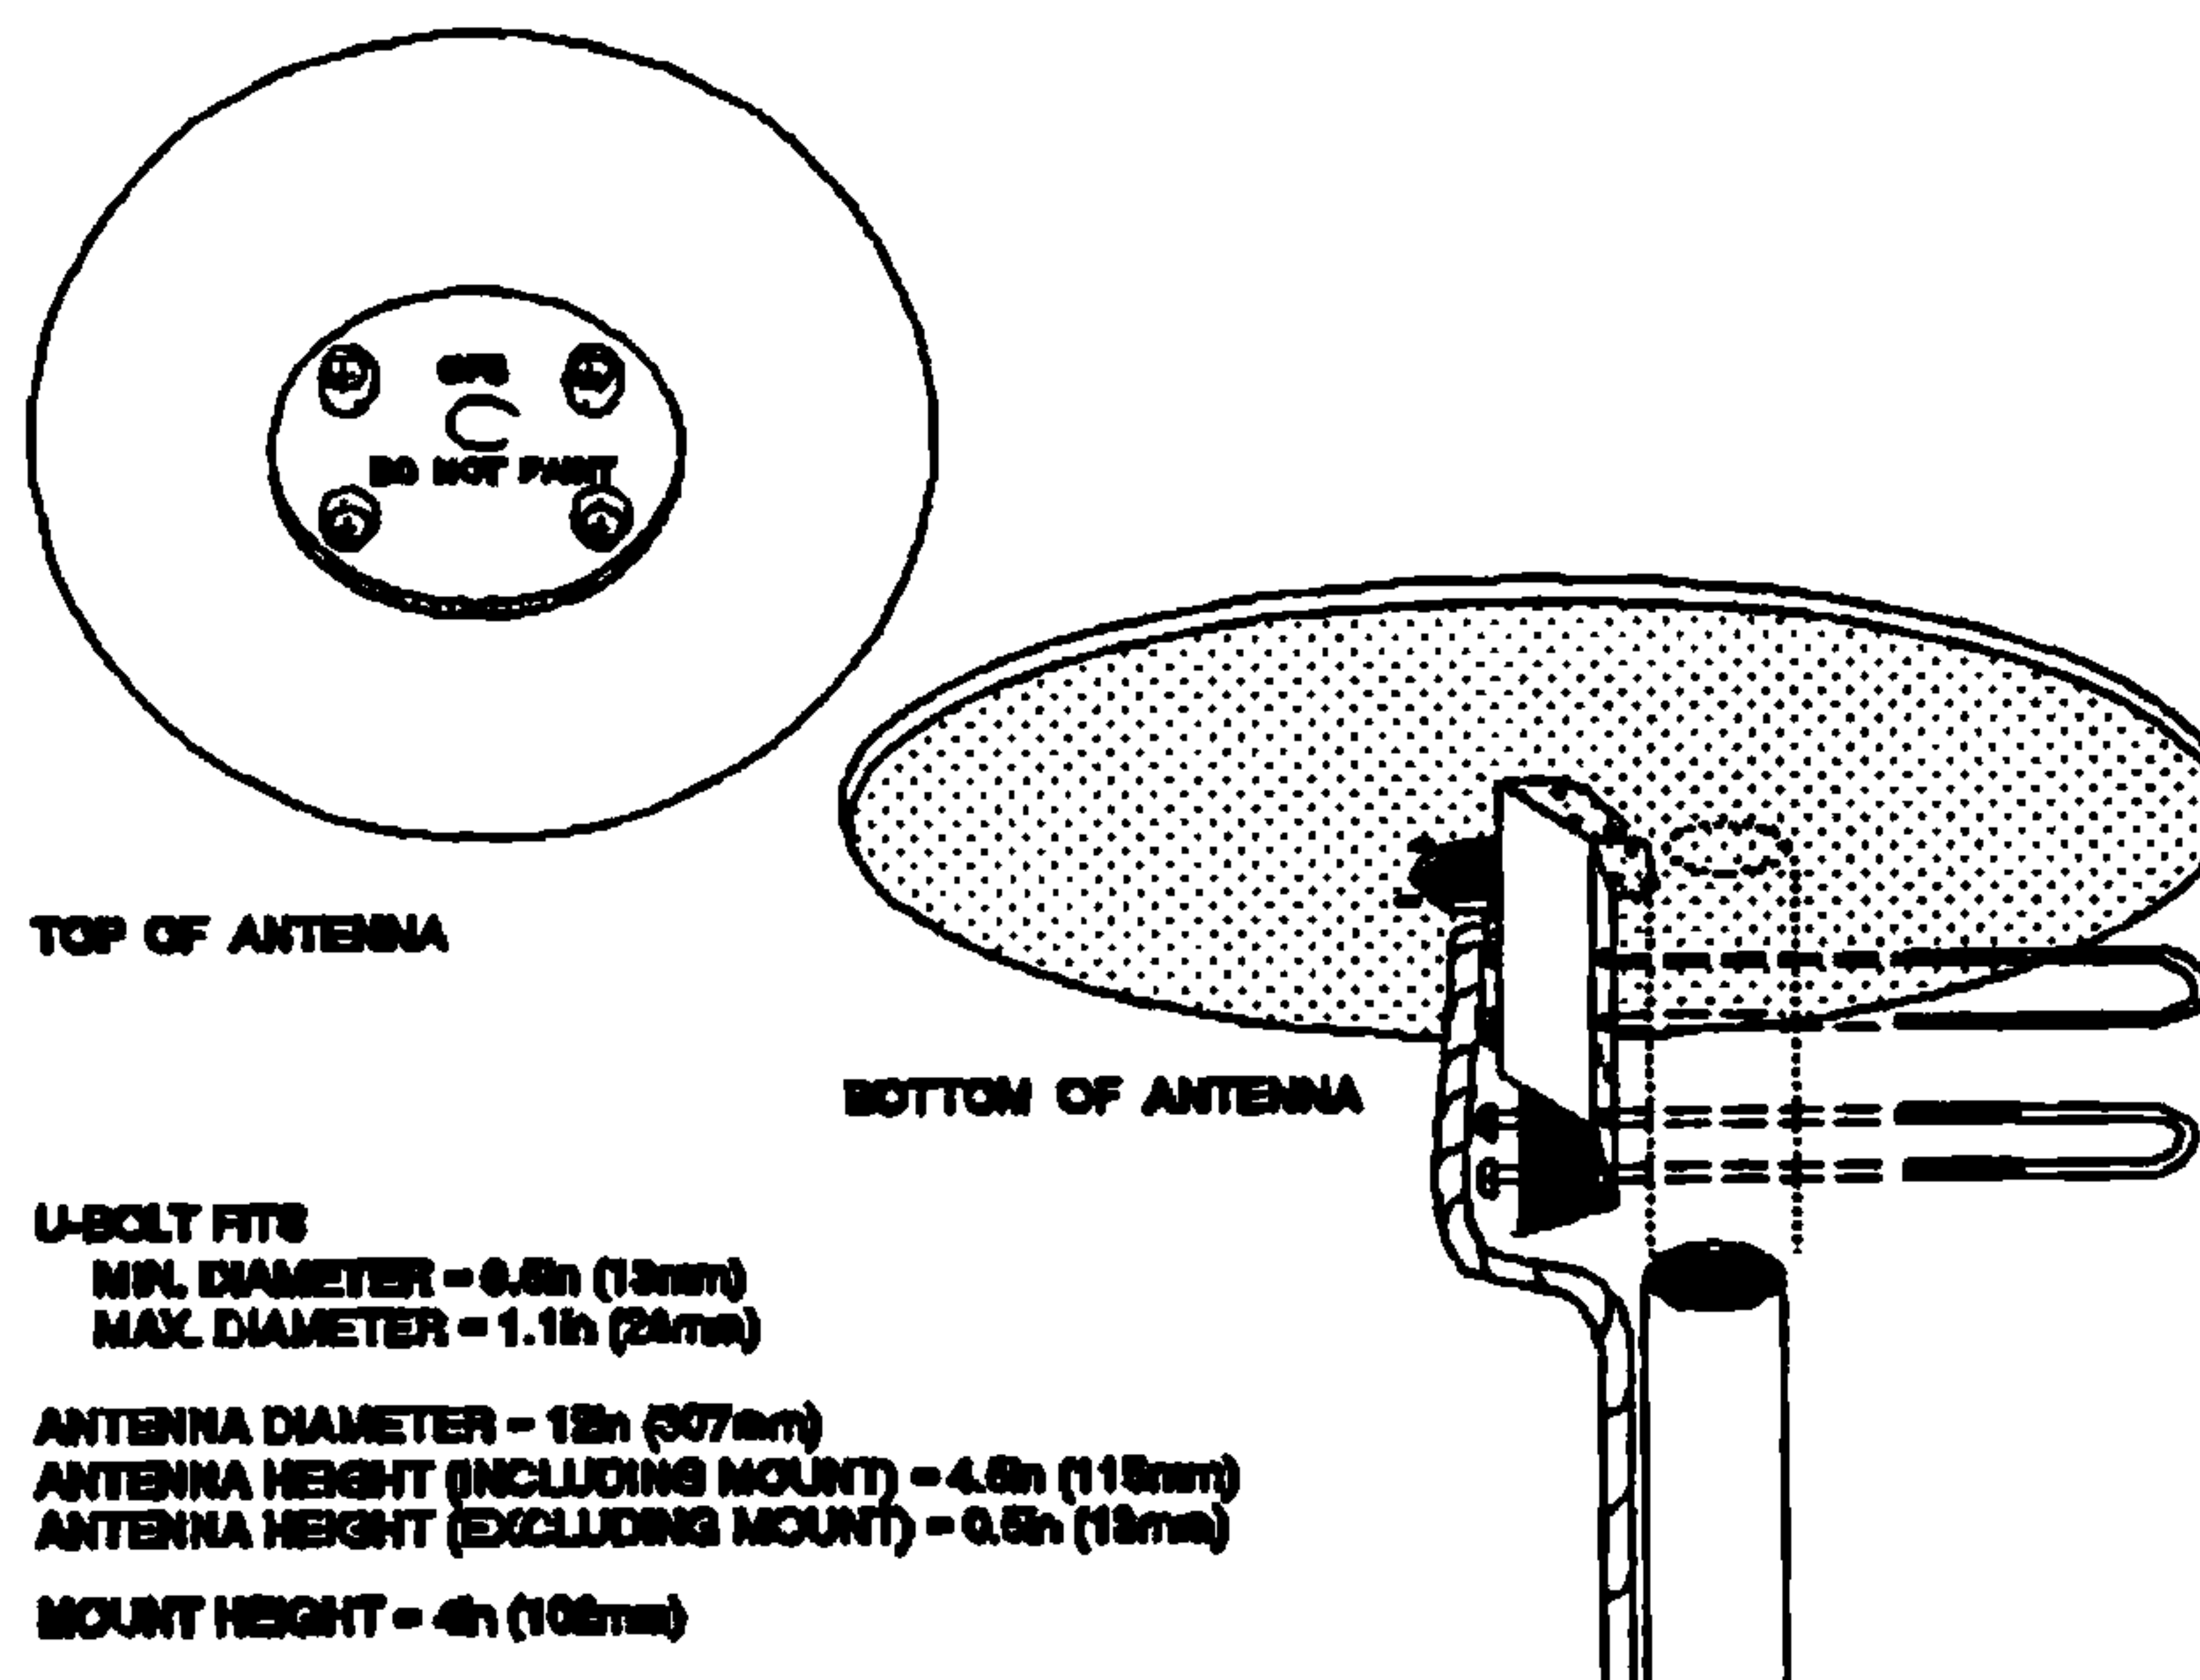

Figure 4. Reference Station Vertical/Horizontal Antenna Mounting and Dimensions
2. Attach the antenna to a rail or pole using a standard antenna mount, or other appropriate hardware, as shown in Figure 4.
You will want access to the ANTENNA input connector, the 1 PPS output connector (perhaps), and the MULTI-PORT Interface DB 25S connector (Figure 4).